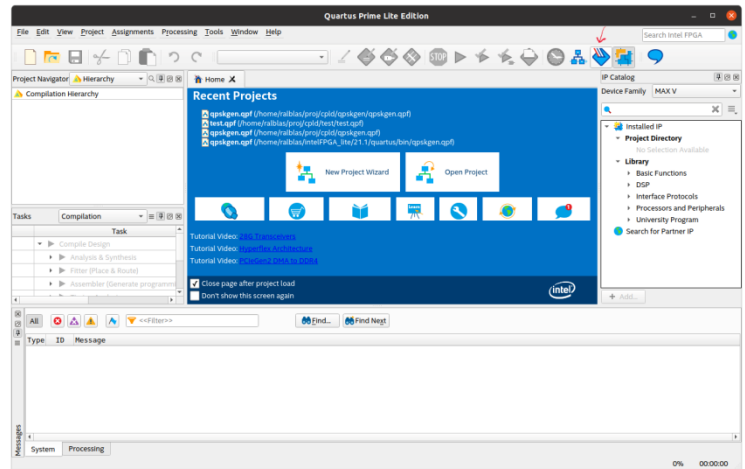

Fig. 1. Start screen
- Start Quartus, you will get the following screen; see fig. 1.